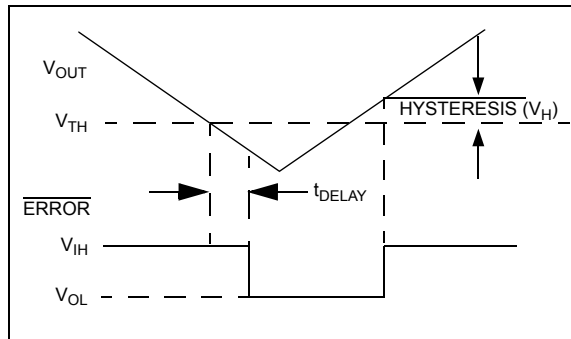

FIGURE 4-2: $\overline{\text{ERROR}}$ Error Output Operation.
$\overline{\text{ERROR}}$ is driven low whenever V_{OUT} falls out of regulation by more than -5% (typical). This condition may be caused by low input voltage, output current limiting, or thermal limiting. The $\overline{\text{ERROR}}$ output voltage value (e.g. $\overline{\text{ERROR}} = V_{OL}$ at 4.75V (typical) for a 5.0V regulator and 2.85V (typical) for a 3.0V regulator). $\overline{\text{ERROR}}$ output operation is shown in Figure 4-2.
- Changed Figure 4-2.